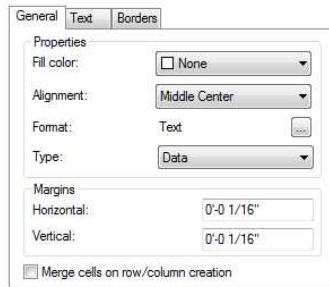

FIGURE 9.62: The General tab of the New Table Style dialog box
11. Change Alignment to Middle Center. The General tab should look like Figure 9.62.